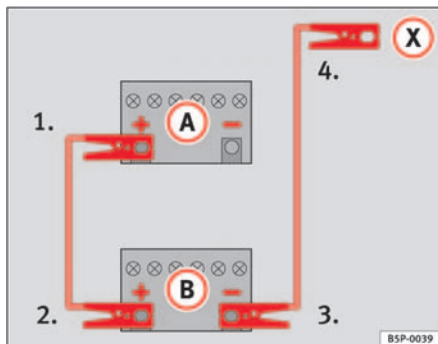

Fig. 156 How to connect the jump leads
In ⇒ fig. 156, the flat battery is **A** and the charged battery **B**.
1. Connect one end of the red jump lead to the positive ⇒ fig. 156 (+) terminal of the vehicle with the flat battery ⇒ ⚠.
4. Connect the other end of the black jump lead (X) to a solid metal component which is bolted on to the engine block, or onto the engine block itself of the vehicle with the flat battery. Do not connect it to a point near the battery ⇒ ⚠.